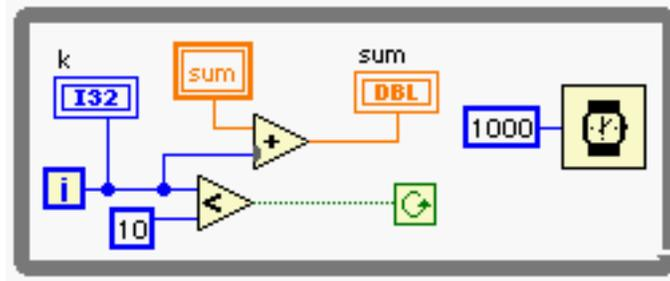

Figure P4.7
- 4.7** Figure P4.1 shows how a VI can have memory using the **While Loop** without any Boolean control wired to the conditional terminal. This is because the **While Loop** always executes at least once such as do while statement in C++. In other words, the **While Loop** in LabVIEW checks the condition *after* executing one iteration. Keeping that in mind, consider Figure P4.7, which is the incomplete diagram window of the pseudo code listed in the next page. Find out why the VI needs to be modified, correct the error, and save it as **P04_07.vi**. (Repeat executing the VI to see the incompleteness of it.) When the VI stops, **k** should be 10, and **sum** should be 55 every time you run it.